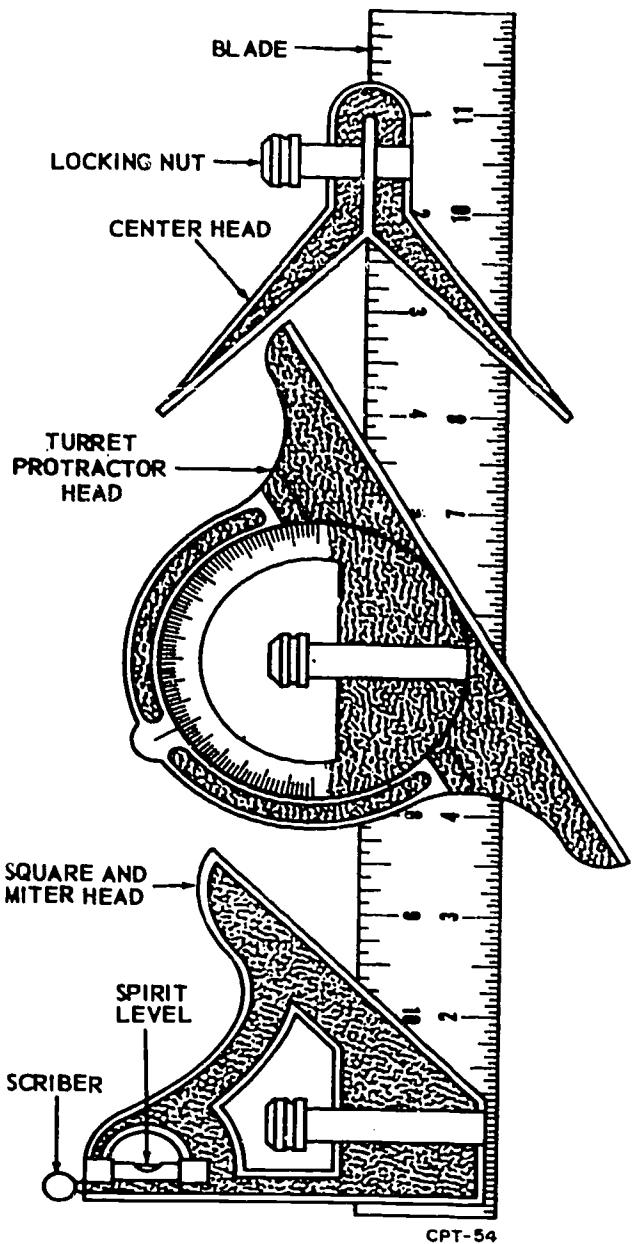

Figure 1-33. A combination set.
**Combination Set.** The combination set shown in figure 1-33 is, as its name indicates, a tool that has several uses. It consists of a rigid steel rule, called the blade, and three attachments—the square and miter head, the turret protractor head, and the center head. Although the illustration shows all three attachments installed on the blade, they are used individually. During use, only one attachment will be on the blade.
position. The central groove is not visible in figure 1-33 because it is located on the reverse side of the blade illustrated. However, in figure 1-34, the central groove is shown in each view of the blade. The steel blade usually is graduated in eighths, sixteenths, thirtyseconds, and sixtysixths of an inch; it may be pulled out of the attachments and used as a measuring rule, if desired.
The center head, shown in figures 1-33 and 1-34, can be used to scribe a line through the center of a circular object or to measure the diameter. Notice how one edge of the blade bisects the angle of the center head. To locate the center of a circular object, you need to scribe two lines as shown in figure 1-35. The center is the place where the two scribe lines intersect. Hold the heads of a combination set snugly against the object being marked.
The turret protractor head, shown in figure 1-33, is graduated in  $360^\circ$  and can be used to determine the number of degrees in an unknown angle, to construct angles of known degrees, or to transfer and lay out identical angles. In the terminology of sheet metal working terminology, the words "angle" and "bevel" often are used interchangeably. For example, a long section of gravel guard, for the edge of a flat roof, will have a V-shaped groove for a stiffener. When making the angles of groove on a cornice brake, you may hear them referred to as angles or bevels. The turret protractor can be used to duplicate bevels such as these V-shaped grooves of gravel guards.